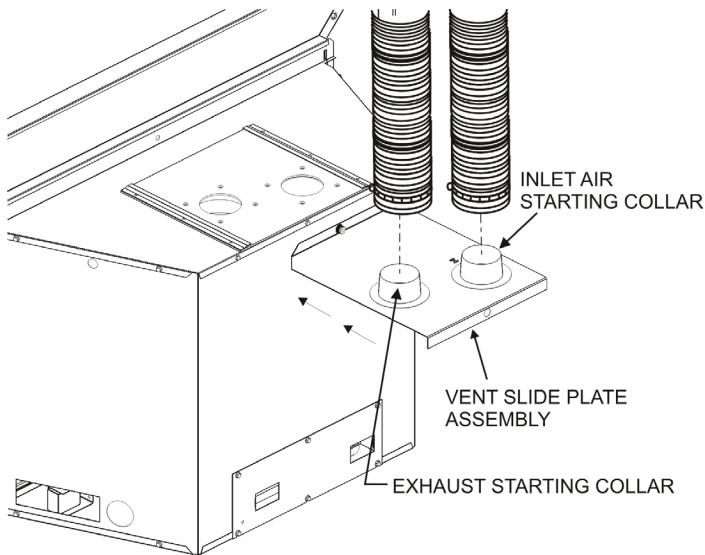

Figure 9
3. Remove the vent slide plate assembly from the top of the insert. See **Figure 9**.